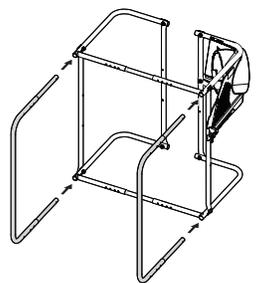

Figure 10
- Insert u-shape tubes into left and right frame assemblies by sliding adjustment tubes into corner tubes as shown in Figure 10.